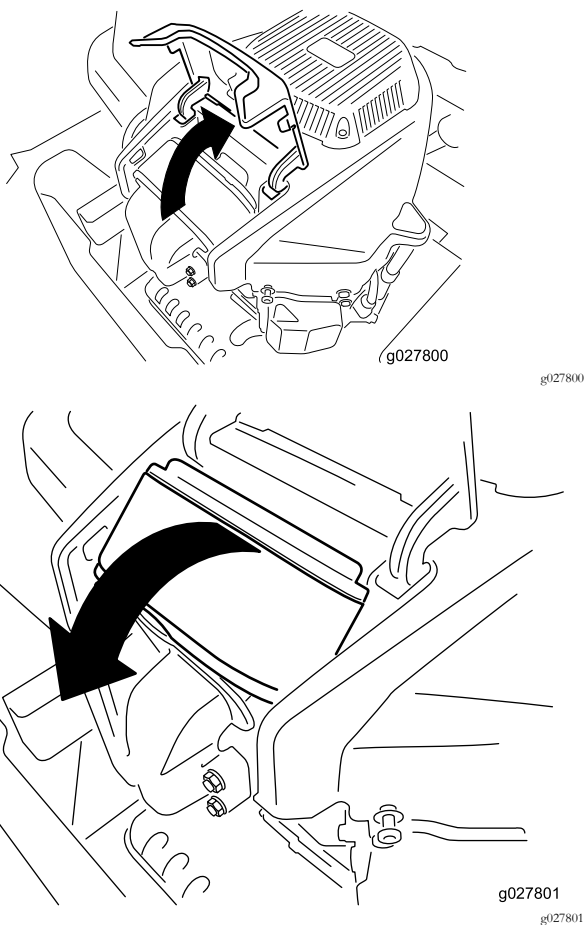

Figure 38
4. Lift the cover and rotate the air-cleaner assembly out of the engine (Figure 38).